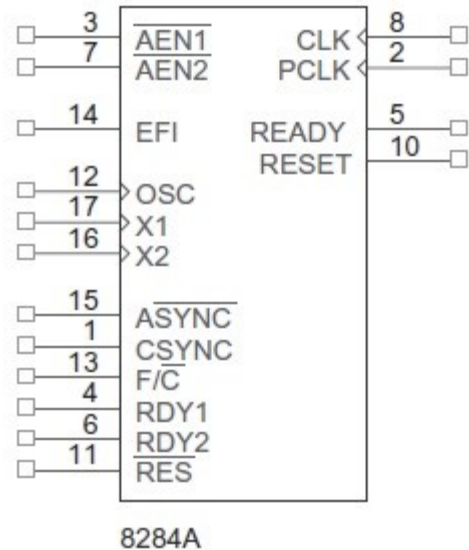

FIGURE 9–2 The pin-out of the 8284A clock generator.
The 8284A provides the following basic functions or signals: clock generation, RESET synchronization, READY synchronization, and a TTL-level peripheral clock signal. Figure 9–2 illustrates the pin-out of the 8284A clock generator.
**FIGURE 9–4** The clock generator (8284A) and the 8086 and 8088 microprocessors illustrating the connection for the clock and reset signals. A 15 MHz crystal provides the 5 MHz clock for the microprocessor.